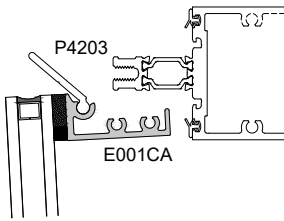
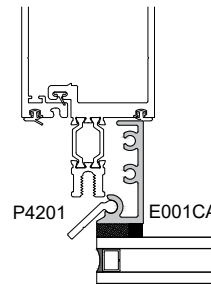

Fig. 63.1
Fig. 63.3
- STEP 1: Set sill of assembled cassette frame on anchor clips P4203 as shown at Fig. 63.1. Note location of jamb frame position shown at Fig. 63.3